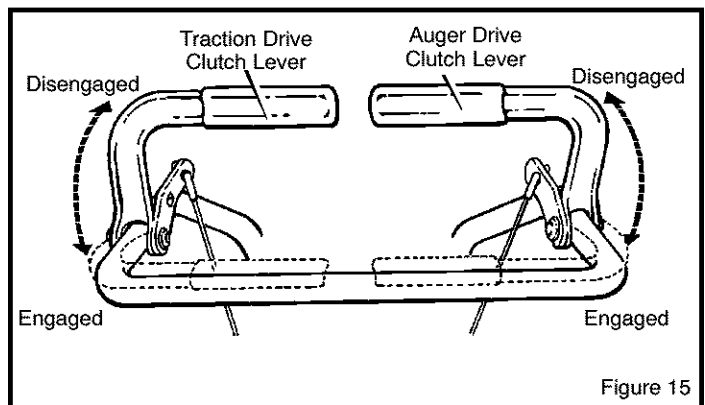

Figure 15
5. Engage auger drive clutch lever (right hand—Figure 15).
6. Engage traction drive clutch lever (left hand—Figure 15). As the snow blower starts to move, maintain a firm hold on the handles and guide the snow blower along the cutting path. Do not attempt to push the snow blower.
7. To stop forward motion, release traction drive clutch lever (left hand – Figure 15).
8. To stop the auger, release auger drive clutch lever (right hand – Figure 15).